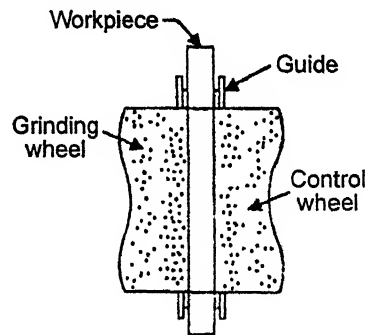

Fig. 11.4. Through feed grinding.
1. **The through-feed grinding.** Refer to Fig. 11.4.